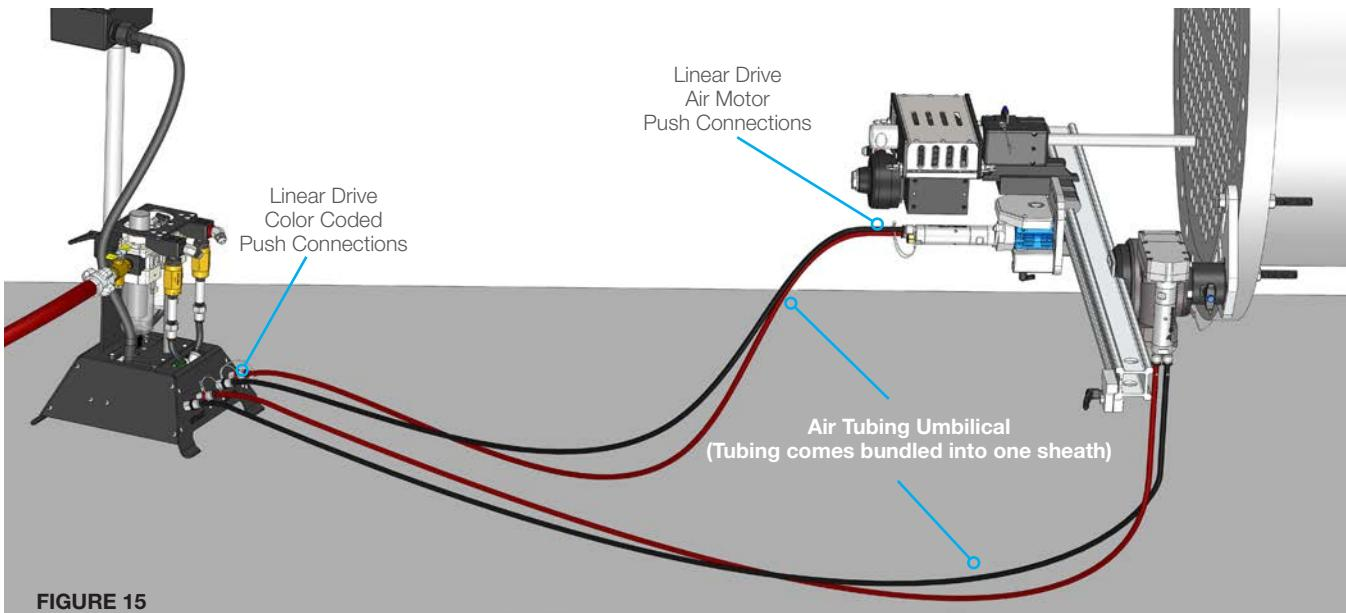

FIGURE 15
20. Connect the color coded Air Tubing to their respective Push Connect Fittings, located above the "LINEAR" label on the base of the Control Box. **(Figure 15)**
22. Connect the opposite ends of the Air Tubing to the Push Connect Fittings on the Linear Drive Air Motor. **(Figure 15)**
Due to the various mounting options, the Linear Drive air motor is not color coded. If the operating directions seem reversed, the connections at the air motor can easily be switched at the Push Connect Fittings. **(Figure 15)**